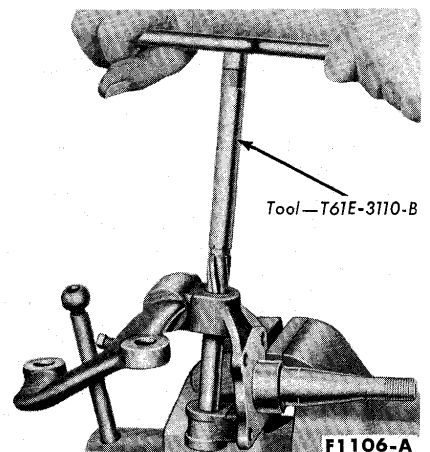

FIG. 9—Reaming Spindle Bushing
5. Ream the bushings to fit the spindle bolt using the tool shown in Fig. 9.